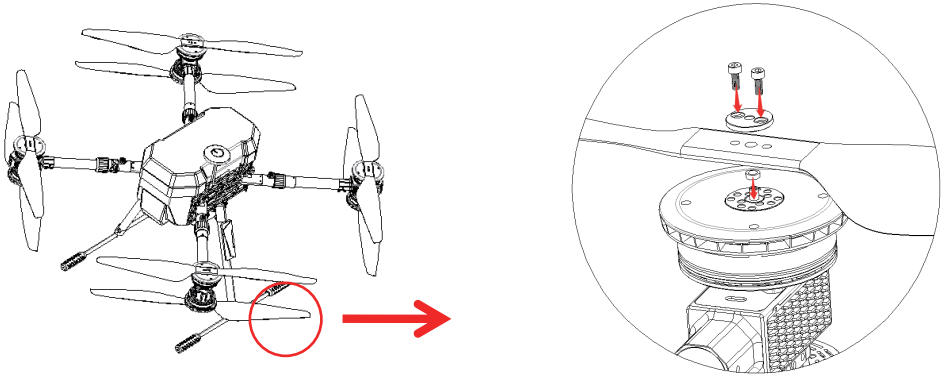
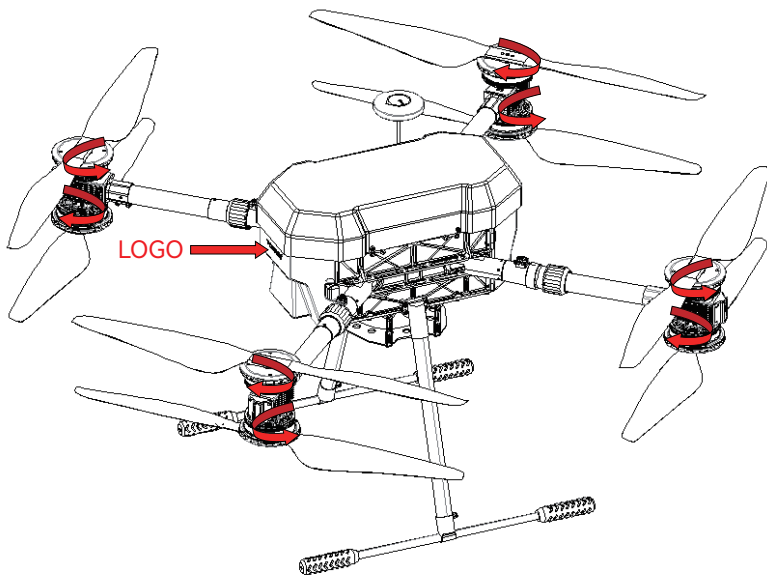

Figure 11 (Mounting Propellers)
Figure 12 (Installation Complete)
5. After the installation and debugging the flight control, install the propeller according to Figure 11. completed in Figure 12